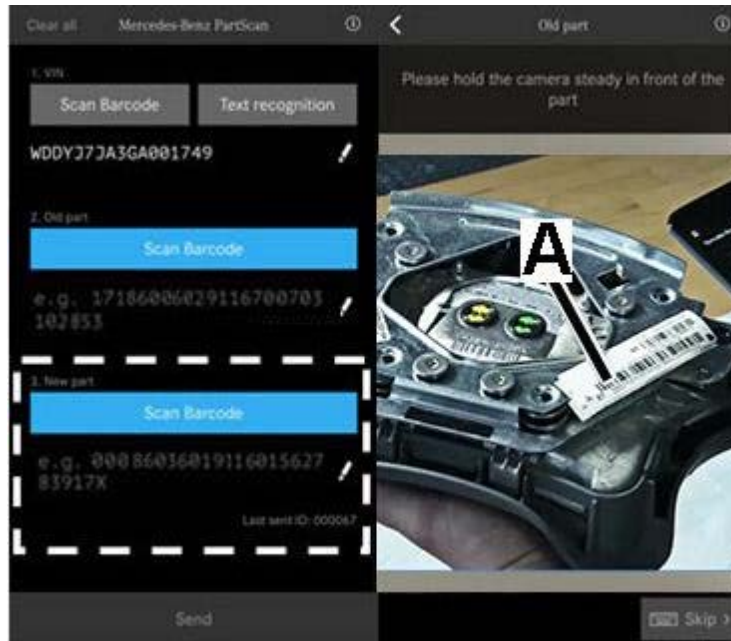

Figure 3
6. Scan the barcode of the removed driver airbag module using the "Scan old component" button (**Figure 3**).